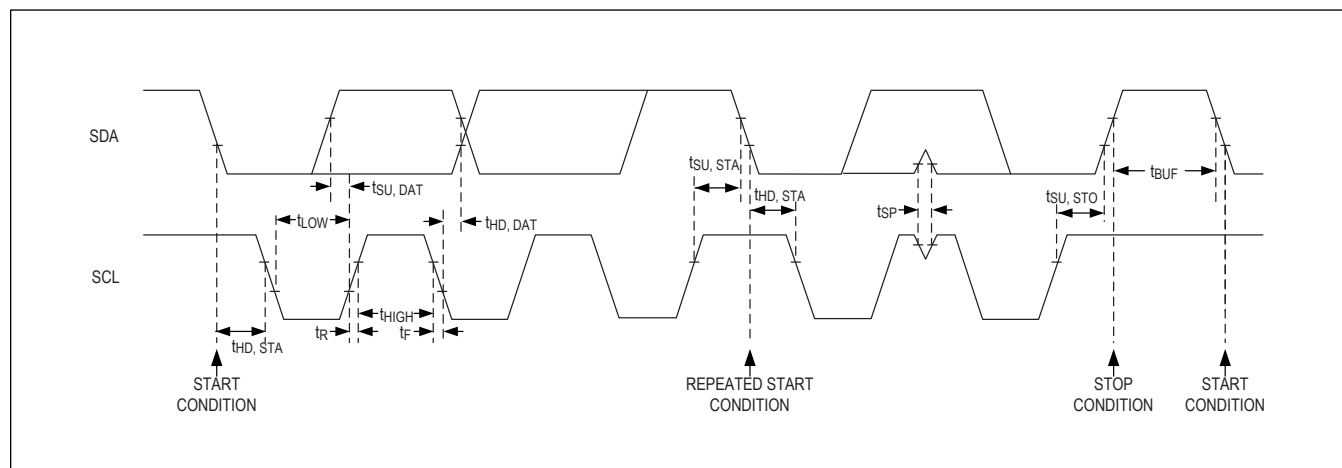

Figure 22. Detailed I²C Timing Diagram
The I²C interface on the MAX30009 is an I²C-/SMBus-compatible, two-wire serial interface consisting of an SDA and a SCL. In the I²C mode, the SDI/SDA pin operates as SDA and the SCLK/SCL pin operates as SCL. These two pins are used for the communication between the MAX30009 and the master at clock rates up to 400kHz. Figure 22 shows the two-wire interface timing diagram. The master generates SCL and initiates data transfer on the bus. The master device writes data to the MAX30009 by transmitting the proper slave address, followed by the register address, and then the data word. Each transmit sequence is framed by a START (S) or REPEATED START (Sr) condition, and a STOP (P) condition. Each word transmitted to the MAX30009 is 8-bits long and is followed by an acknowledge clock pulse. A master reading data from the MAX30009 transmits the proper slave address, followed by a series of nine SCL pulses. The MAX30009 transmits data on SDA in sync with the master-generated SCL pulses. The master acknowledges receipt of each byte of data. Each read sequence is framed by a START (S) or REPEATED START (Sr) condition, a not acknowledge (NACK), and a STOP (P) condition. SDA operates as both an input and open-drain output. A pullup resistor is required on SDA. SCL operates only as an input. A pullup resistor is required on SCL if there are multiple masters on the bus, or if the single master has an open-drain SCL output. Series resistors in line with SDA and SCL are optional. Series resistors protect the digital inputs from high-voltage spikes on the bus lines, and minimize crosstalk and undershoot of the bus signals.